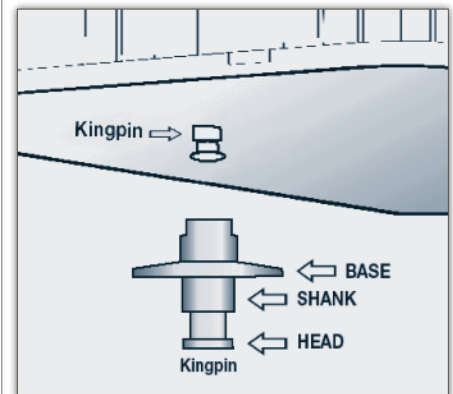

Figure 6.8
- » Locking jaws around the shank, not the head of kingpin. See Figure 6.8.